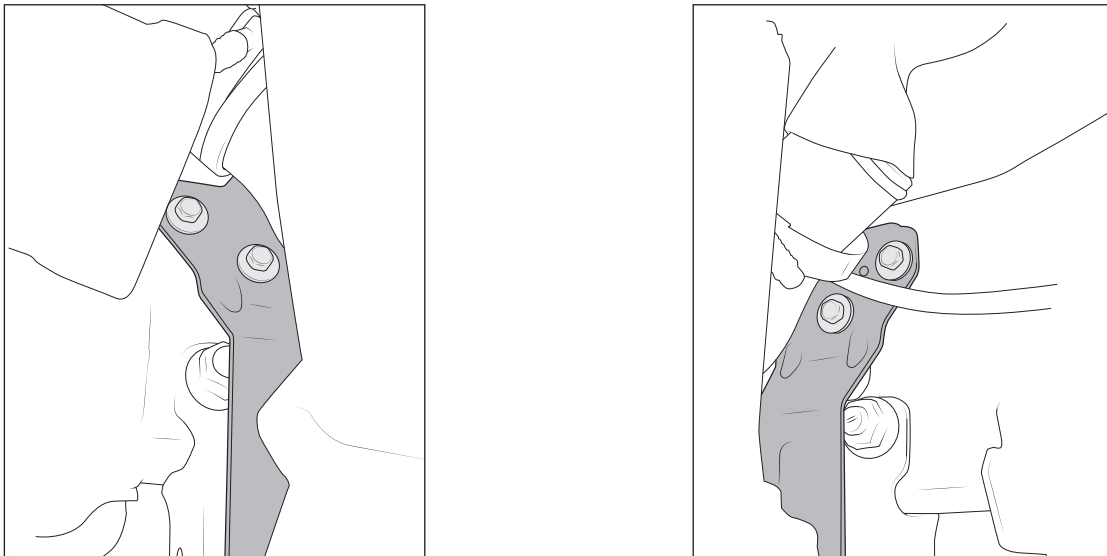

Figure 11
- 14. Remove the intercooler bolts (fig. 11).